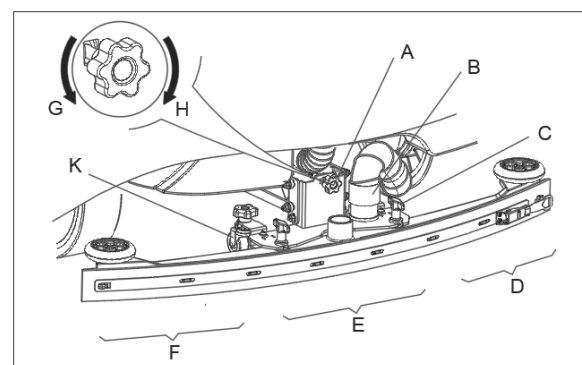

Figure 10
1. Install the squeegee and tighten up the nuts (C, Figure 10), then connect the vacuum hose (B) to the squeegee.
2. Adjust the squeegee by squeegee adjusting knob (A).
- a) If there is a gap between the ground and middle section of rear squeegee blade (E), adjust the knob (A) in clockwise direction (H) until all sections of the rear squeegee blade make good contact with the ground, and the front blade touches the ground slightly.
- b) If there is a gap between the ground and both end sections of the rear blade (D and F), adjust the knob (A) in counterclockwise direction (G) until all sections of the rear squeegee blade make good contact with the ground, and the front blade touches the ground slightly.
- If necessary, adjust the whole squeegee height by adjust the caster wheel (K) height.